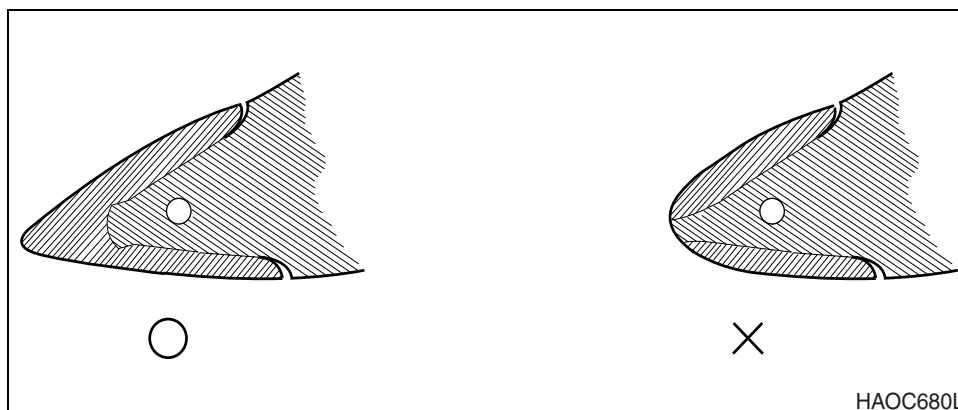

Figure 81
1. On a routine basis, inspect bucket teeth to make sure that tooth wear or breakage has not developed. Do not allow replaceable bucket teeth to wear down to a point that bucket adapter is exposed. See Figure 81.